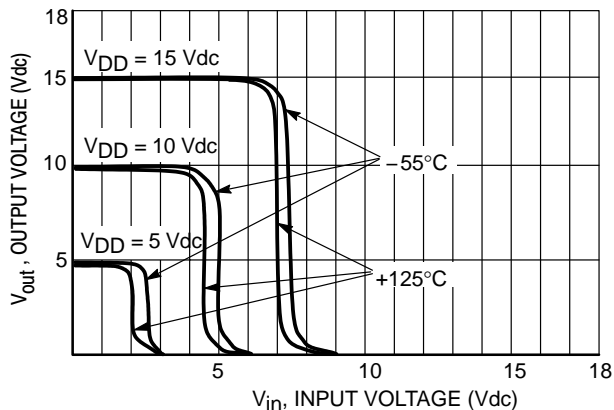

Figure 4. Typical Voltage Transfer Characteristics versus Temperature
14. Temperature Derating: All Packages: See Figure 4.